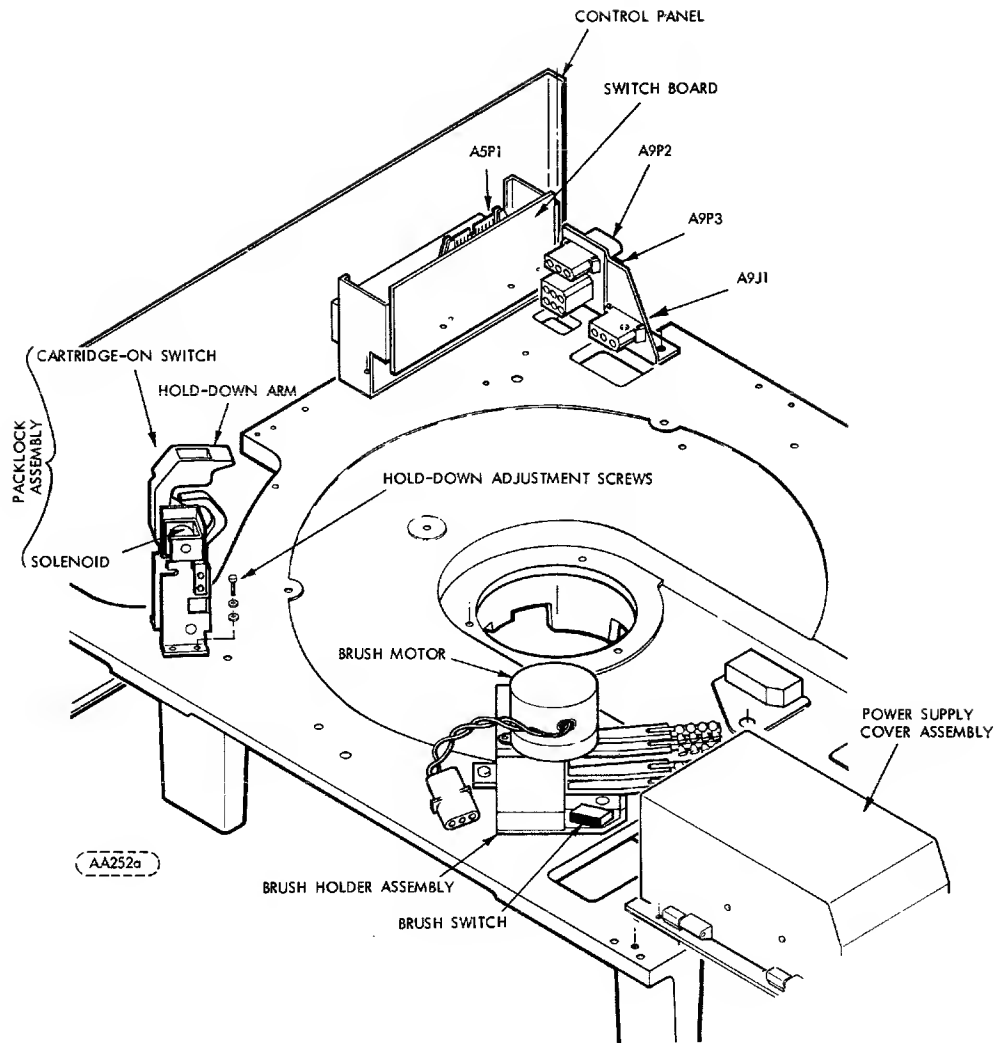

FIGURE 6-12. PACKLOCK AND BRUSH ASSEMBLIES
13. Remove two screws, washers and nuts securing switch assembly to hold-down arm and remove switch. (Reference Figure 6-12).
- a. Loosen hold-down arm adjustment screws (Figure 6-12).
13. Disconnect wires from brush retract switch (see Figure 6-12).